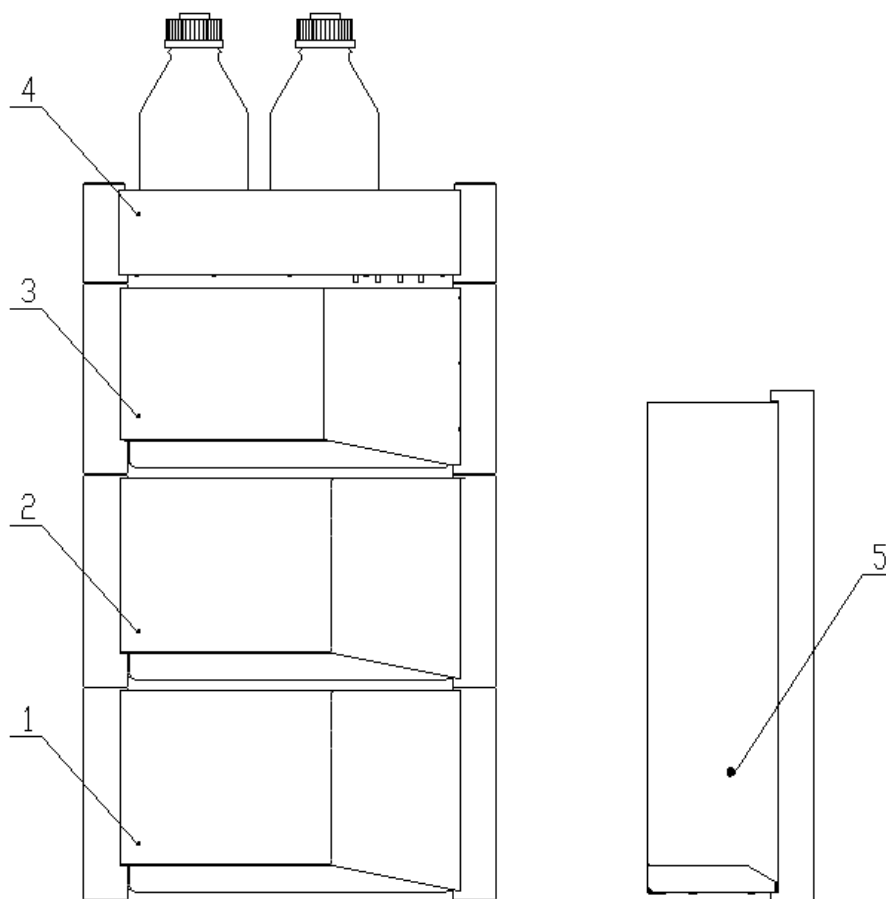

Fig. 2-1 Recommended Stack Configuration for EClassical 3200L HPLC
To ensure optimum performance of the detector, the following configuration is recommended as Fig. 2-1.
- 1) Lay the detector as Fig. 2-1 and 2-2.